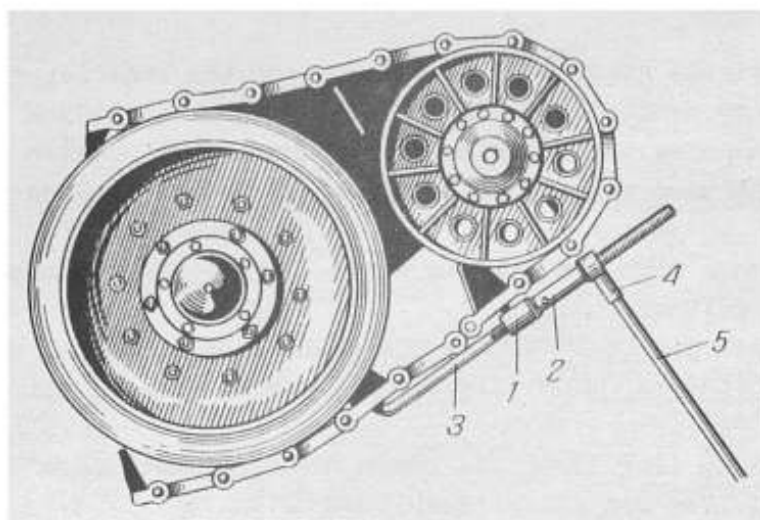

FIG. 2. CONNECTING THE TRACK BY MEANS OF FIXTURE 11-00
7. Align the track pin holes of the track shoes of the upper and lower track branches by means of fixture C6-00 (Fig.2), and connect them by the pin (See Specifications, Item "a").
9. Align the holes of track shoes of the upper and lower branches of the track by means of fixture C6-00 (Fig.2) and connect them with a pin.